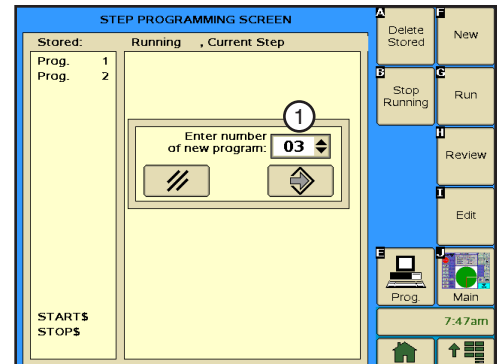

Figure 155-2 1. New Program Number Field
1. Push **Prog.** and **Step Prog.** to view the Step Program screen. Refer to Figure 155-2